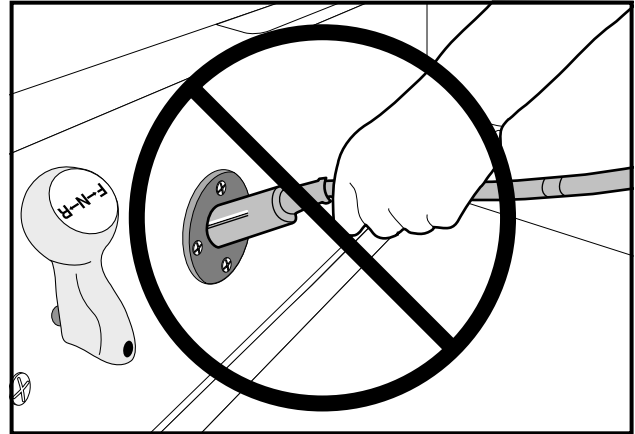

Figure 14 Incorrect Insertion of Charger DC Plug
- Do not pull on the DC cord (Figure 14, Page 31). Do not twist, rock or bend the plug. To disconnect the charger plug from the vehicle receptacle, grasp the plug by the handle and pull the plug straight out of the receptacle.